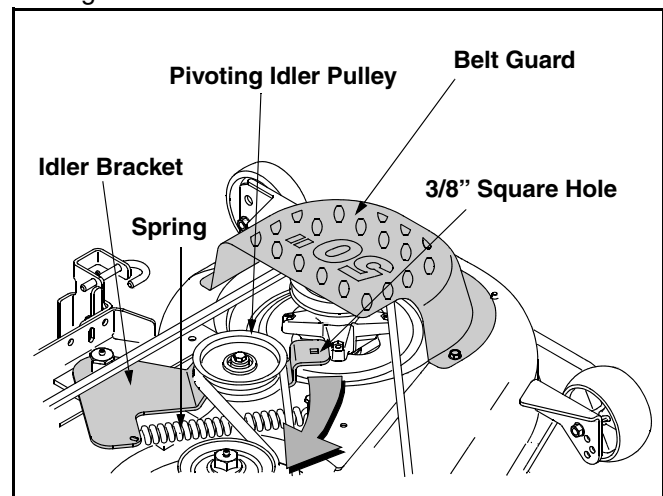
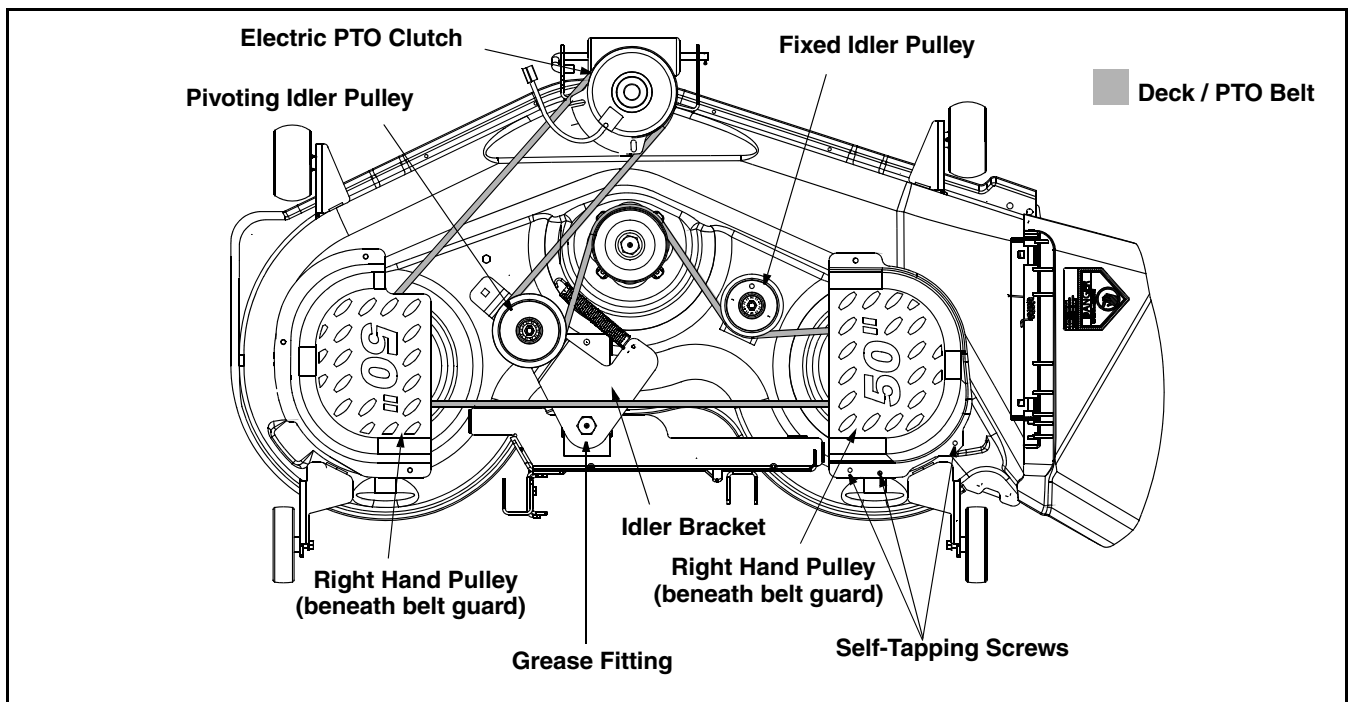

Figure 18
Figure 19
- Remove the PTO belt from around the tractor's electric PTO clutch. Refer to Figure 18 or Figure 19.
- Remove the left-hand belt guard and right-hand belt guard by removing the self-tapping screws that secure each to the deck surface. See Figure 18 and Figure 19.
- To ease in removing the belt in later steps, loosen, but do not remove, the bolt which secures the pivoting idler pulley to the idler bracket. See Figure 18.
- Insert a 3/8"-drive ratchet wrench (set to *tighten*) into the square hole found in the idler bracket on the left side of the deck's surface. See Figure 18.
- Route the new belt as shown in Figure 18.
NOTE: Make certain the belt is routed in **front** of the grease fitting found on the rear of the idler bracket. See Figure 19.
- Re-tighten the bolt which secures the pivoting idler pulley to the idler bracket. See Figure 18.